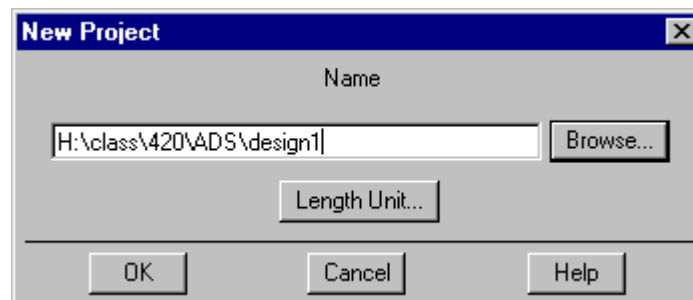

Figure 2: New project dialogue box
4. The “startup directory” is c:\guest\. Create a new project by choosing **File->New Project**. Either type in the path yourself as shown below or use the browse feature to find the ADS directory you created on your user account. Name the new project “design1” as shown in Figure 2 below. Click “OK” when you are done.